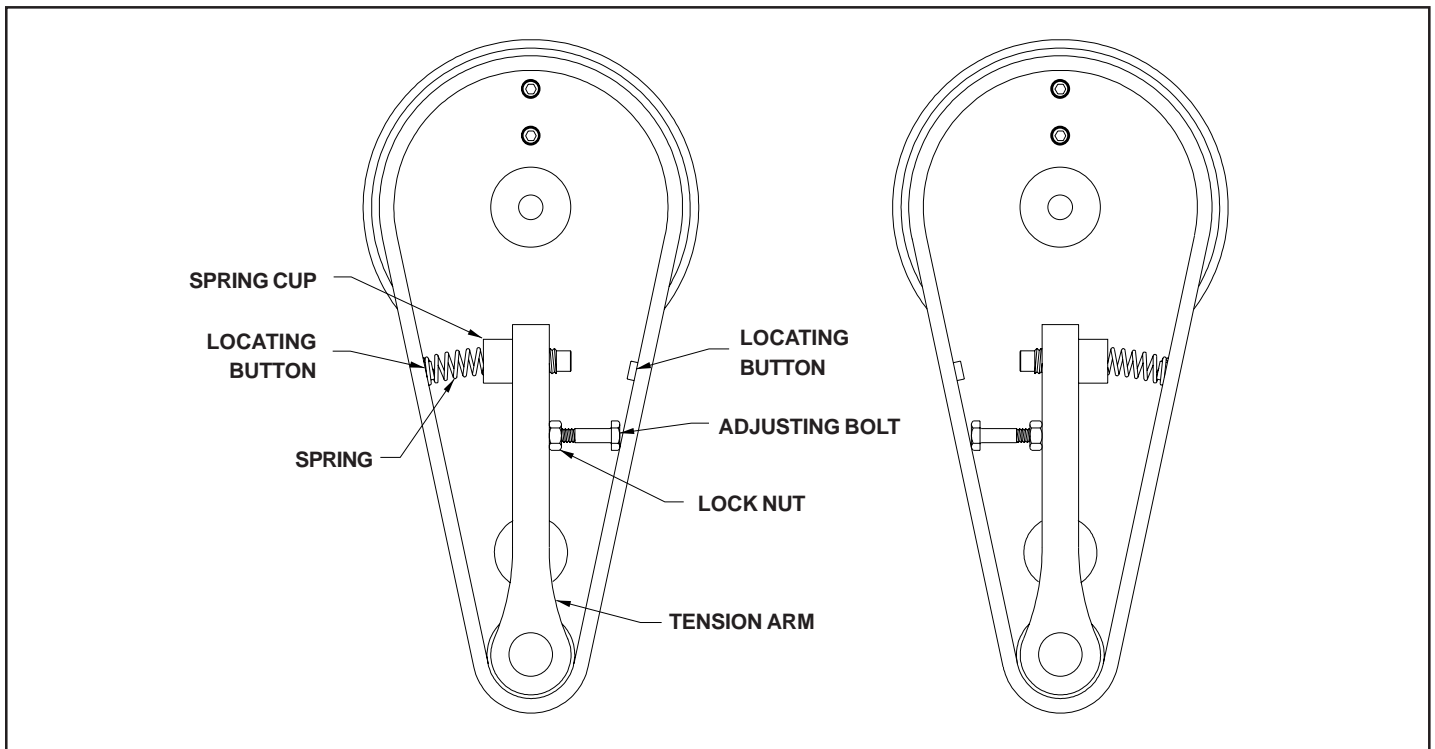

FIGURE 56
- 1- Loosen the Lock Nut and screw the Adjusting Bolt in to relieve the spring pressure (Figure 56).